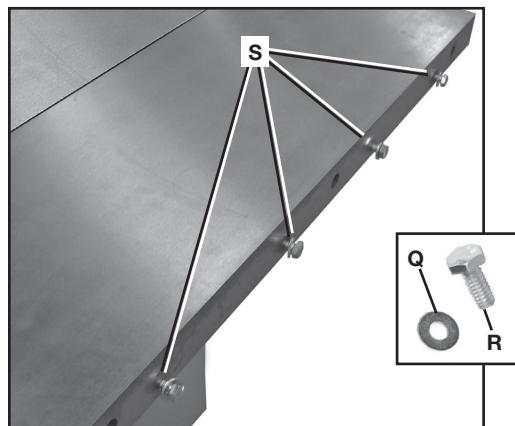
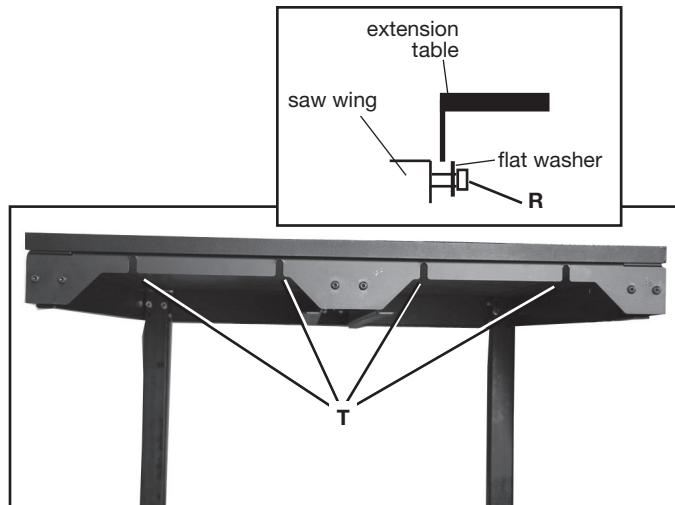
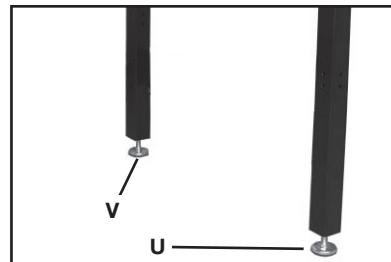

FIG. 8
FIG. 9
FIG. 10
1. Place 5/16" flat washers (Q) Fig. 8 on 5/16-18 hex head screws (R) and thread a few turns into the holes (S) in the right extension wing.
2. Holding the extension table, line up four slots (T) Fig. 9 in the extension table with these four screws (R) Fig. 8 from underneath the extension table.
- NOTE:** Make sure the flat washers are against the heads of screws (R) Fig. 9 (inset).
3. Using the leveling feet (U and V) Fig. 10, make sure the extension table is level and in the same plane with the Unisaw right extension wing and tighten the four screws (R) Fig. 8 from underneath the extension table.